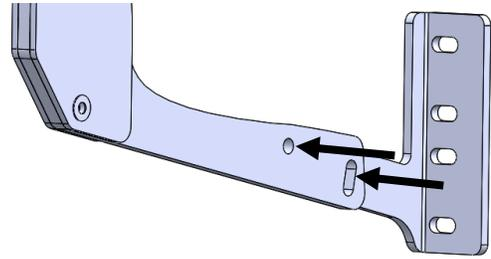

Figure 14: Light Bar Installation onto Brackets
14. Install Light Bar onto mounting brackets and bolt down using included 5/16-18 x 1 1/4" bolts. Reference Figure 14.